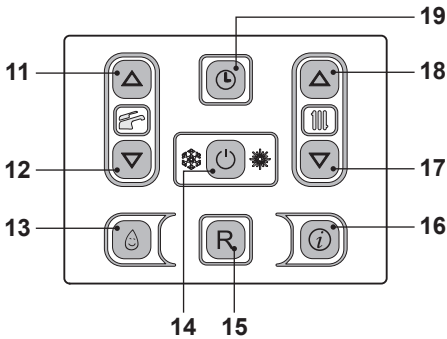
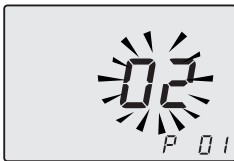

Fig. 7.36
Fig. 7.37
- Enter the "programming mode" by pressing keys 14 - 17 - 18 (Fig. 7.36) for 10 seconds at the same time until the letters **P01** on the LCD display, indicating that "parameter 01" (Fig. 7.37) has been activated.
- By pressing key 14 (Fig. 7.36) confirmation of the inserted value is obtained.
- Press keys 17 or 18 (Fig. 7.36) to exit without changing the value.